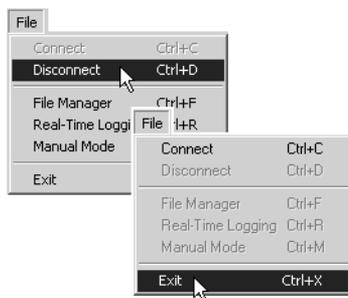

Figure 2-18. Click Disconnect then Exit
8. Click on **File->Disconnect**, then **File->Exit** to quit PC-CDU (Figure 2-18).